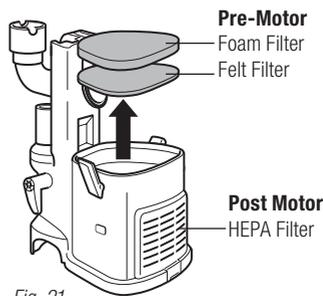

Fig. 21
- Pull the 2 filters out from the top of the motor base. (Fig. 21)